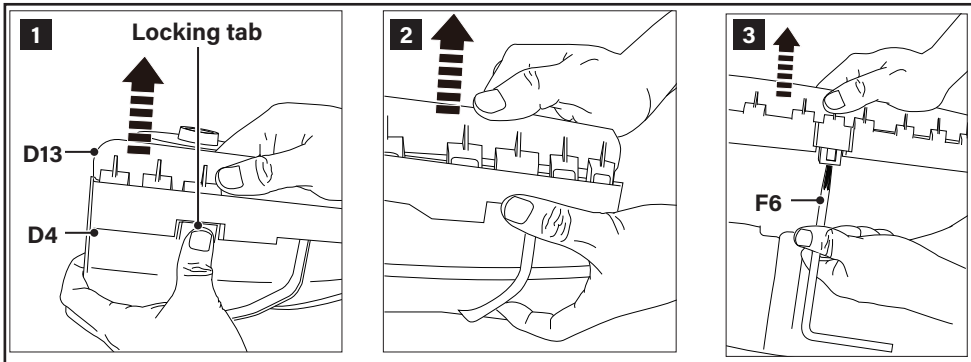

Fig. 9
1. Press the locking tabs on both sides and pull to detach both ends of the trimming guard (D13) from the cutting-attachment guard (D4) (Fig. 9, step 1, 2).
2. Insert the multi-tool 1 (F6) under the center buckle to disengage it and remove the multi-tool 1 (Fig. 9, step 3).